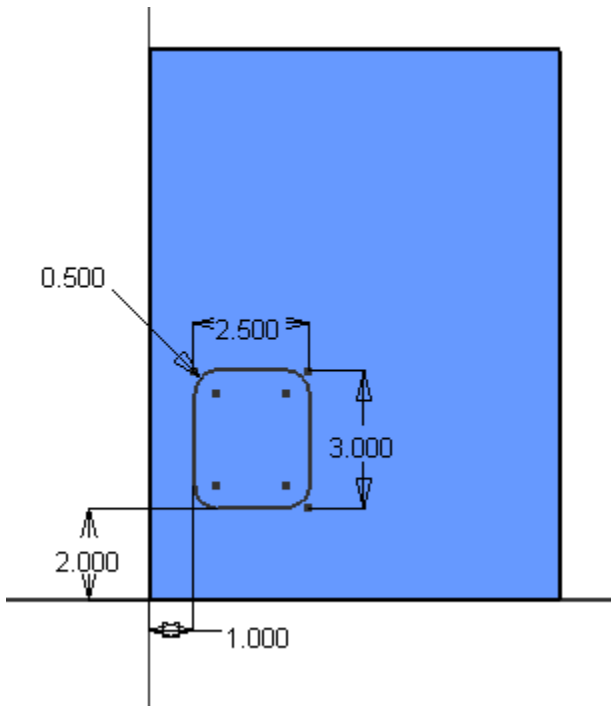

Figure 3: Filleted rectangle sketch.
2. Create a rectangle and dimension it as shown in Figure 3.